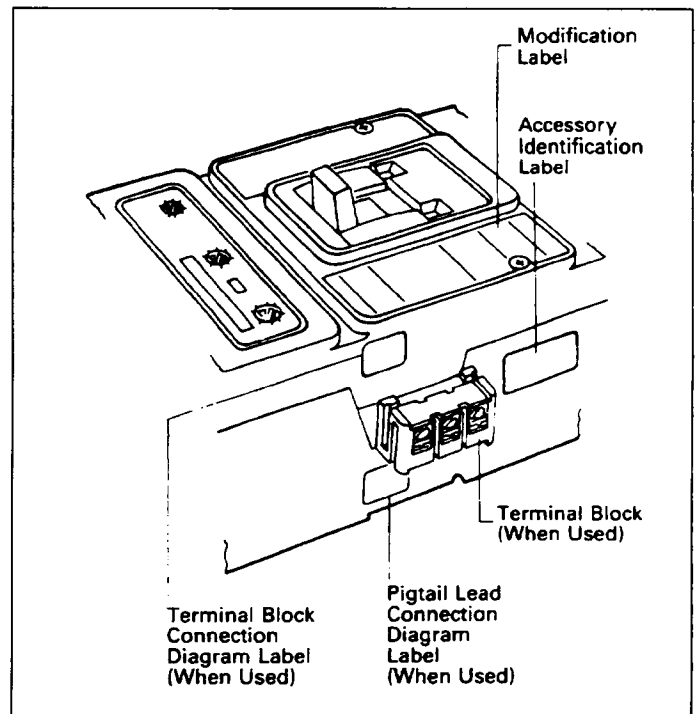

Fig. 2-8. Preferred Mounting Locations for Accessory Nameplate Labels
- 2-15. Place accessory labels (Supplied with kit) on circuit breaker. (See Fig. 2-8.) Modification Label.